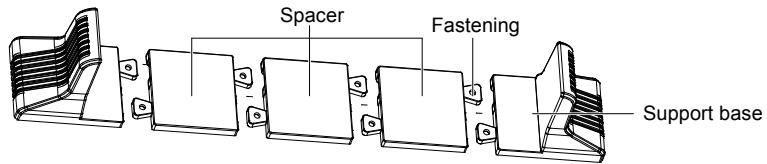

Figure 2-2 Installing support bases with spacers
Step 2: If optional external battery cabinets are connected to the UPS to provide additional battery run time, take out the spacers delivered with the battery cabinet, and then assemble the spacers and the support bases through fastenings, as shown in Figure 2-2.